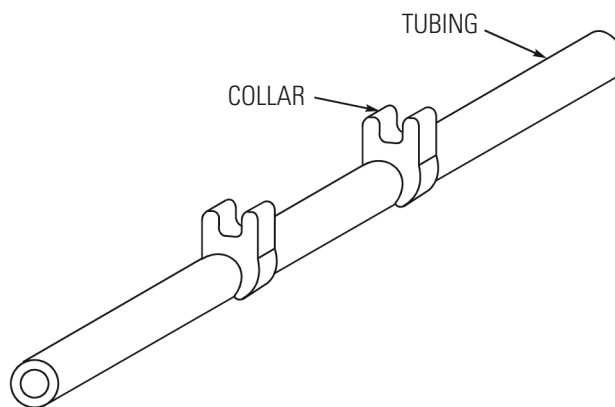

Figure 2-6. MicroBore Tubing Set
3. Select tubing and place in Cartridge (see Figure 2-7B). If using a MicroBore Tubing Set (see Figure 2-6), place the Collar up against the Tubing Retainer (see Figure 2-7C) on both sides of the Cartridge.